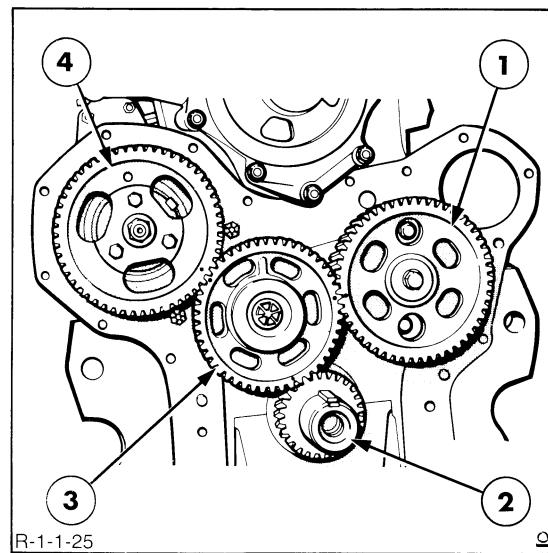
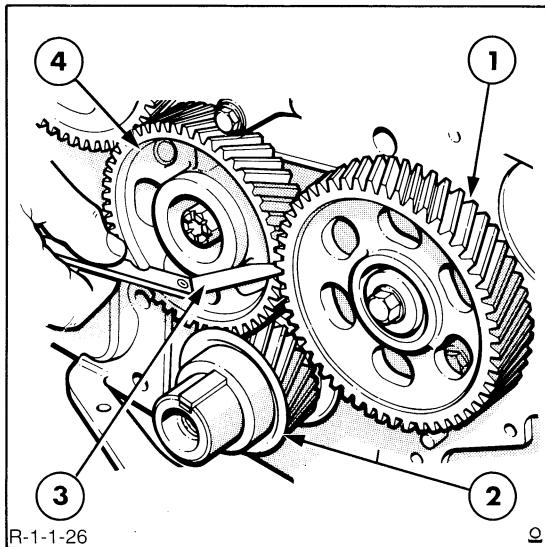

Figure 25
Figure 26
8. Before removing the timing gears, Figure 25, use a dial indicator or feeler gauges, to measure the backlash between each set of mating gears, Figure 26. Rotate the gears and check the backlash at four equidistant points on the gears. Renew the gears if the backlash exceeds the specified limits, see "Specifications" – Chapter 3.
10. Remove the self-locking bolt that retains the camshaft drive gear and adapter to the cylinder block then remove gear and adaptor, Figure 25.
11. Remove the retaining bolt and washer, then remove the camshaft gear from the end of the camshaft, Figure 25.
12. Remove the three bolts and then remove the drive gear from the injection pump hub, Figure 25.